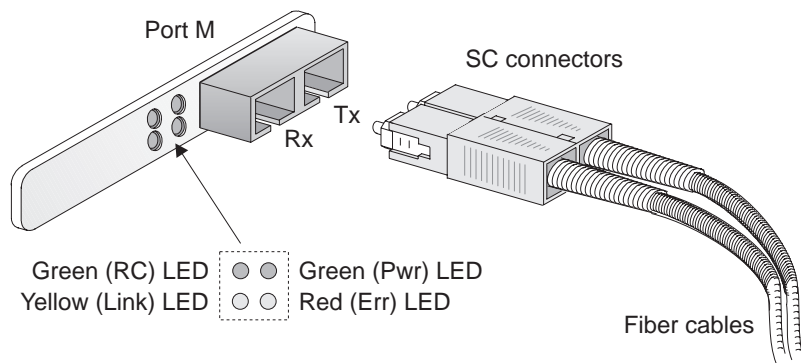

Figure 2-3. PB04511-000 SC Duplex Connection
- If you have a fiber PB04511-000, see Figure 2-3 on page 13.